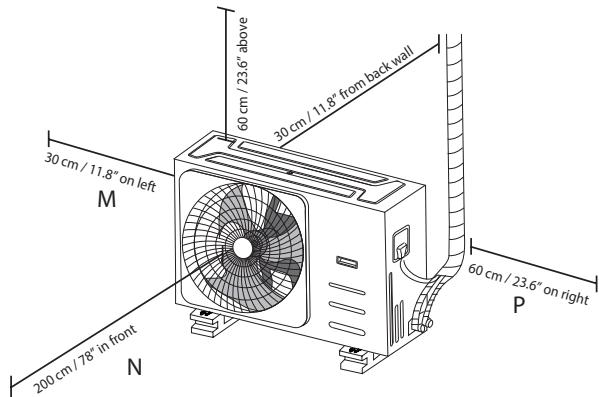

Fig. 4.10
**NOTE:** The minimum distance between the outdoor unit and walls described in the installation guide does not apply to airtight rooms. Be sure to keep the unit unobstructed in at least two of the three directions (M, N, P) (See Fig. 4.10)